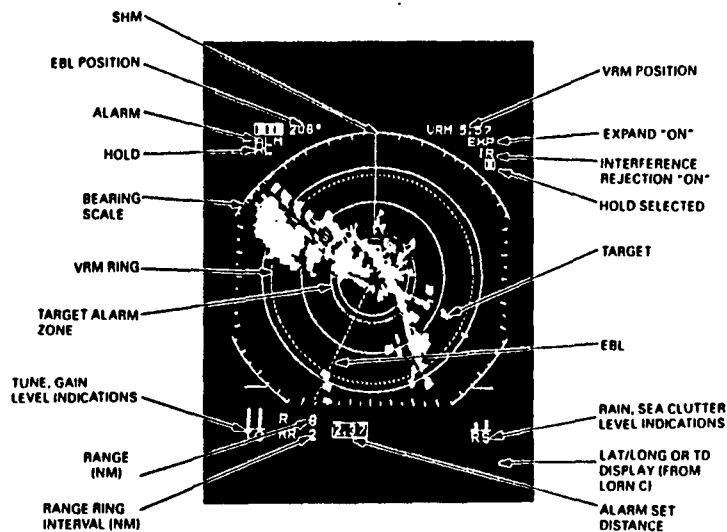

FIG. 3-2 RANGE AND BEARING MEASUREMENTS
3.2 RANGE AND BEARING MEASUREMENT (See Fig. 3-2.)